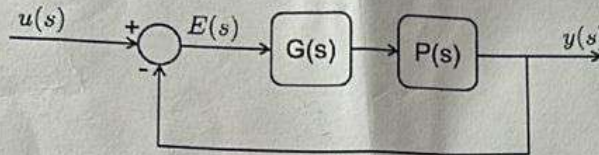

Fig. 3 Proportional control system
- 7.a) Design a proportional control system for a typical closed loop control system with different elements as given below in fig. 3